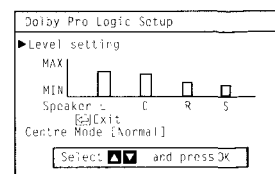

Fig. 35.
- 1 Select Sound Control in the main menu, then select Dolby Pro Logic set up using $\Delta+$ or $\nabla-$ and press OK. The Dolby Pro Logic Setup menu appears. (Digital Surround is set to Dolby Pro Logic mode automatically). (Fig. 35).